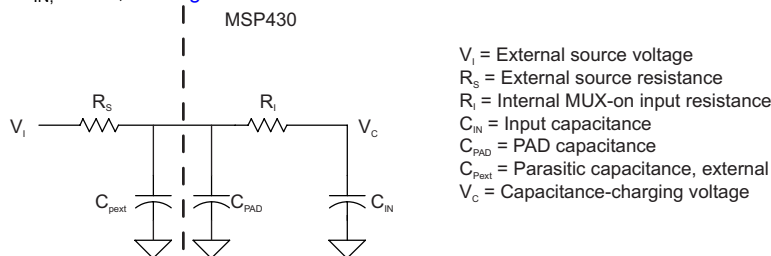

Figure 5-16. eCOMP Input Circuit
(1) For details on the eCOMP C_{IN} model, see Figure 5-16.